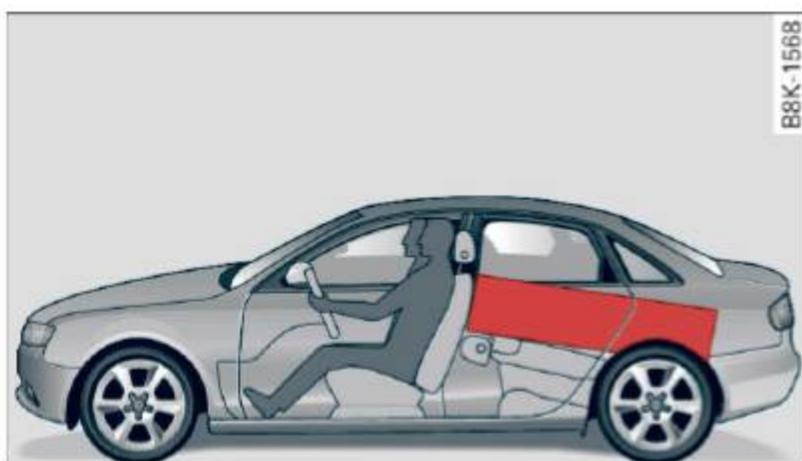

Fig. 141 Safe load positioning: place heavy objects as low and as far forward as possible.
- ▶ Always place and properly secure heavy items in the luggage compartment as low and as far forward as possible ⇒ *fig. 141*.